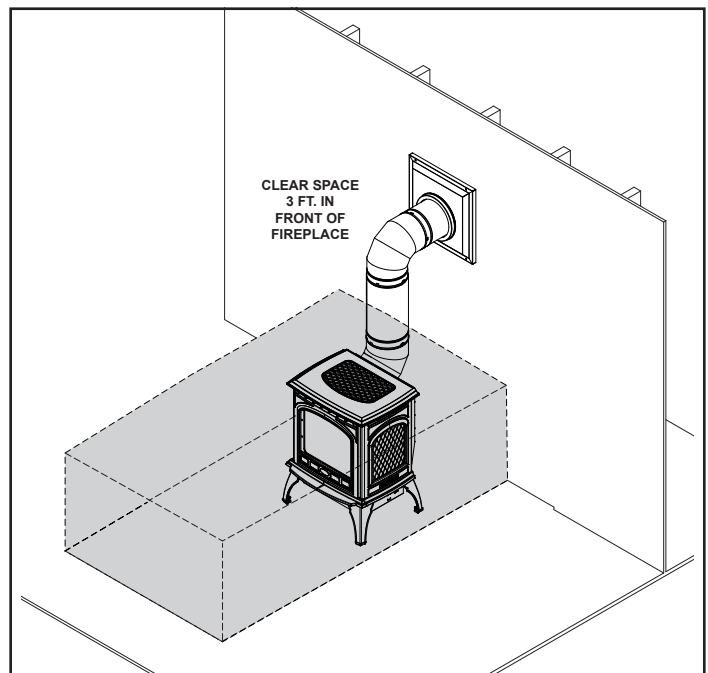

Figure 3.1 - Clear Space
**WARNING! DO NOT place combustible objects in front of the stove or block louvers.** High temperatures may start a fire. See Figure 3.1.
Avoid placing candles and other heat-sensitive objects on top of appliance or in clear space. See Figure 3.1. Heat may damage these objects. See appliance installation manual for additional clearance information.